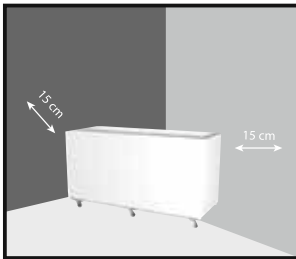

Fig. 4
- 2-** When you place it on the corner, leave a clearance of 150 mm (15 cm) on its back so that it faces the corner. You may lean the side on the corner to the wall. (Figure 4)